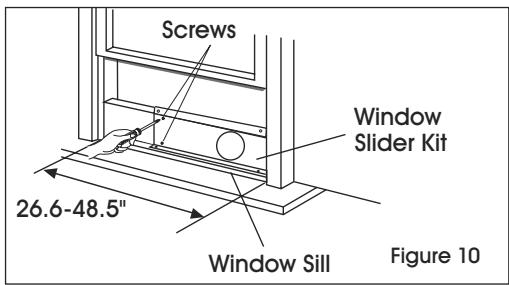

Figure 10
2. Open the lower sash and place the window slider kit on the window sill. (See Figure 10) Adjust the length of the window slider kit according to the width of window. Screw down the two screws on the window slider kit. (See Figure 10)